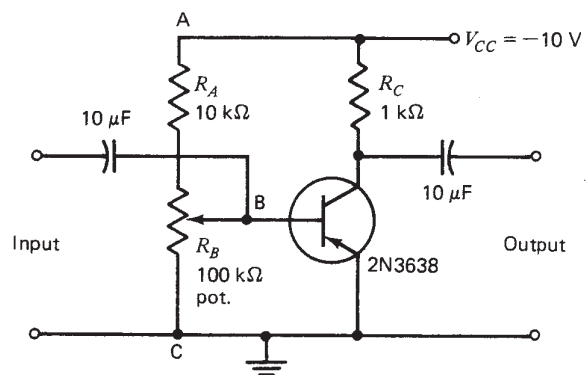

Fig. 58-1. PNP common-emitter amplifier.
2. Connect the circuit shown in Fig. 58-1.